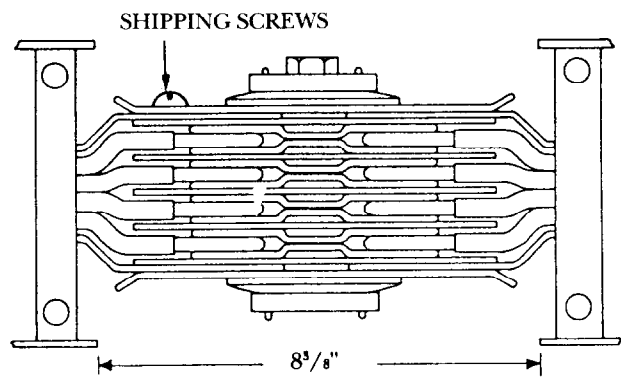
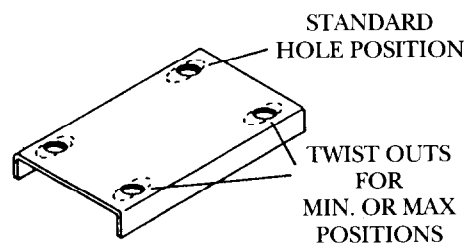

Figure 10. "Standard"
Figure 13. Joint Cap
5. The standard distance between the housings is $8\frac{3}{8}$ " as shown in Figure 10. However, the joint is also adjustable as shown in Figures 11-12. Simply move the sections in or out to the desired length as shown and remove the twist-outs in both joint caps. See Figure 13.